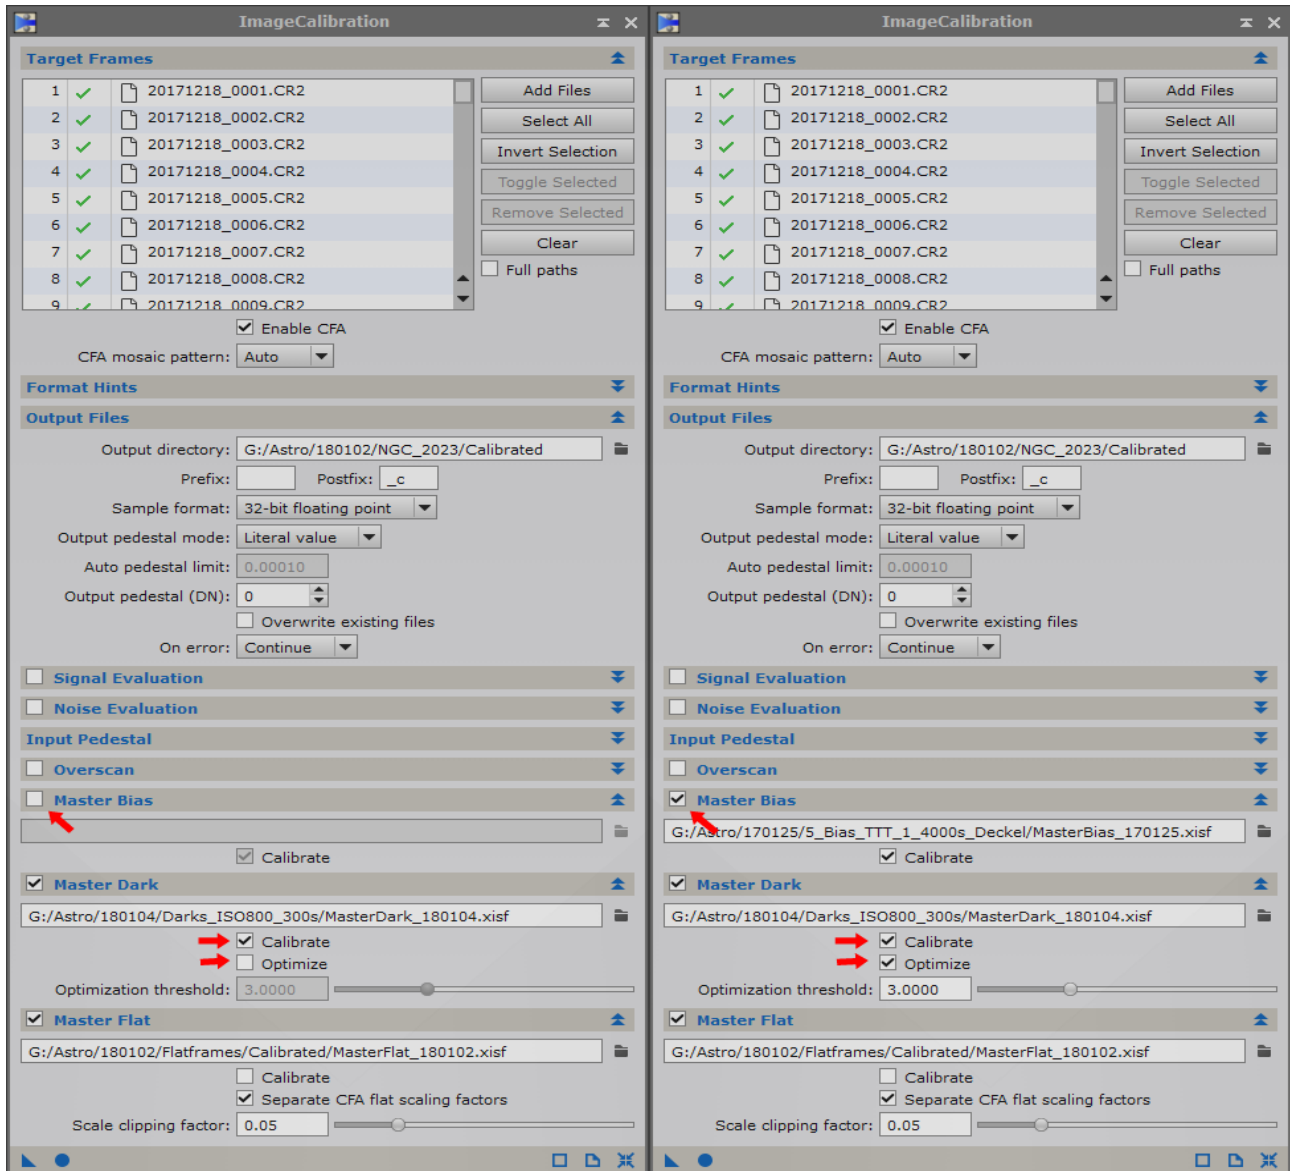

Figure 3: Settings in ImageCalibration, left side: no dark frame optimization, right side: with dark frame optimization [n9]
For the calibration of light frames with dark frame optimization, use the settings in **Figure 3**, right side:
For the calibration of light frames without dark frame optimization use the settings in **Figure 3**, left side:
- calibrate the light frames using the settings shown in section B5.2, **Figure 3**, right side.
- calibrate the light frames using the settings shown in section B5.2, **Figure 3**, left side.